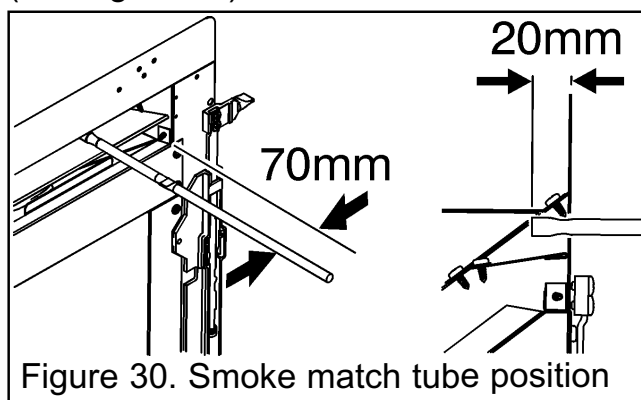

Figure 30. Smoke match tube position
4. The smoke match should be placed horizontally into the top of the down draught air relief opening, 70mm from the right hand side. Insert the smoke match tube up to the neck of its flared end (approximately 20mm) (See figure 30).